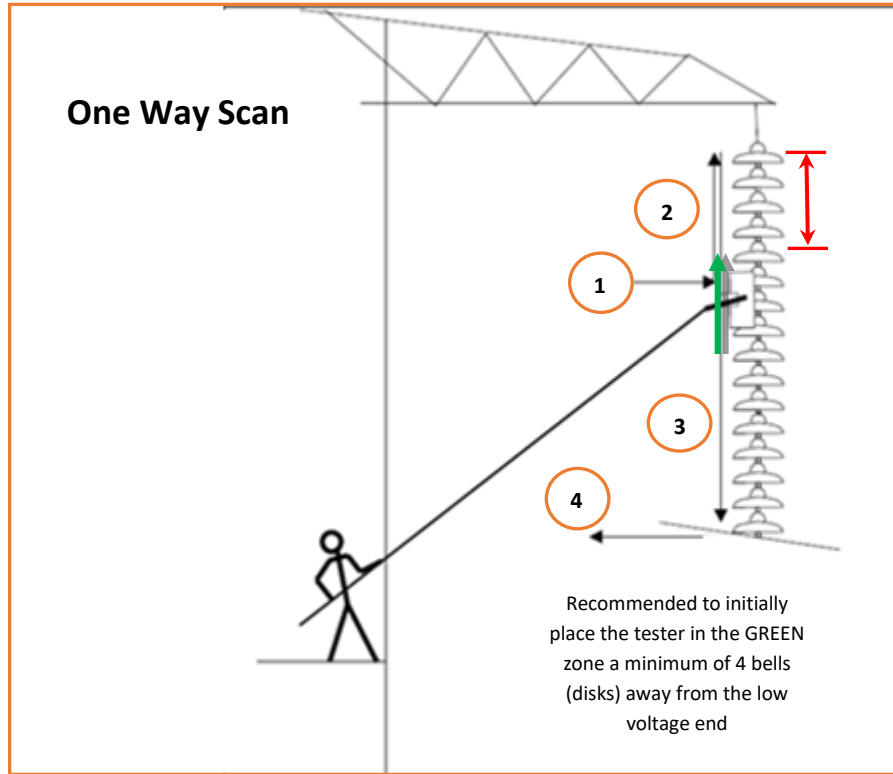

Figure 15
1. Following the instructions of the Ground Operator, press the Push-button on the Probe to wake up the Probe, if required, (See Figure 14) and place the Tester a minimum of four (4) bells (disks) away from the low-voltage end. See the **Green Zone** in Figure 15.